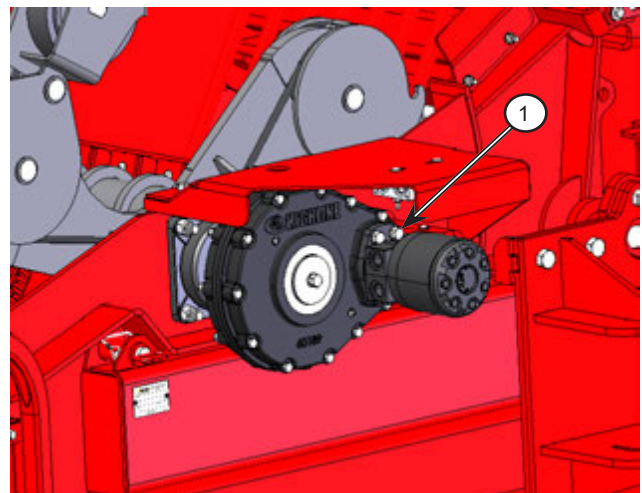

Figure 6.21: Check the motor mount bolts
1. Check that all the motor mount bolts (1) are tight and the motor is securely fastened to the gearbox; see Figure 6.21.